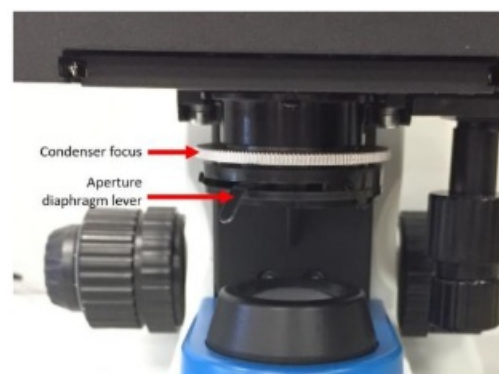

Fig. 11
2. Turn the silver, knurled condenser ring right or left to change the height of the condenser and the N.A. of the illumination system (see Fig. 11). The condenser should be in its highest position during operation.